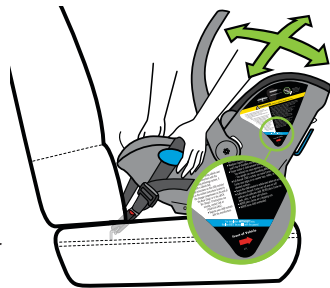

Figure 56
- Grip Carrier near blue LATCH/Lap Belt Guides and pull Carrier side-to-side and front-to-back to check for secure installation, as shown in **Figure 56**. The Carrier should not move more than 1 in. (2.5 cm) at the belt path. Do not push down on Carrier near the child's feet when checking for movement.
- Verify that blue Recline Reference Line is parallel with ground, as shown in **Figure 56**. If not, loosen LATCH Belt a small amount, adjust the recline of the Carrier, and go back to **Step 12**.